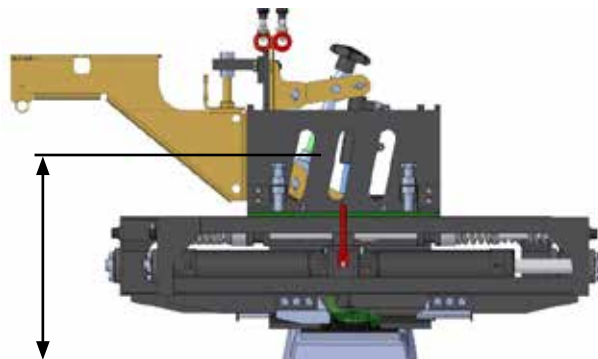
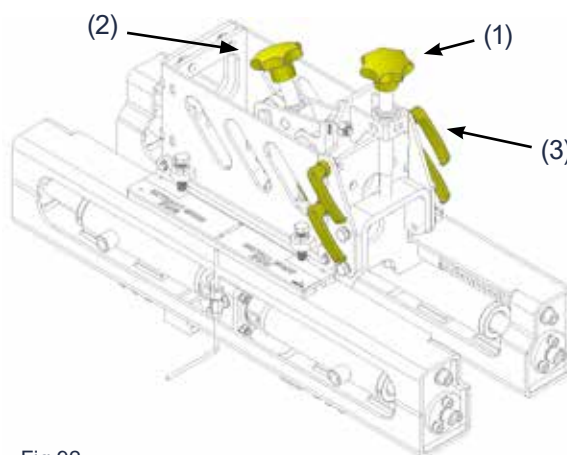
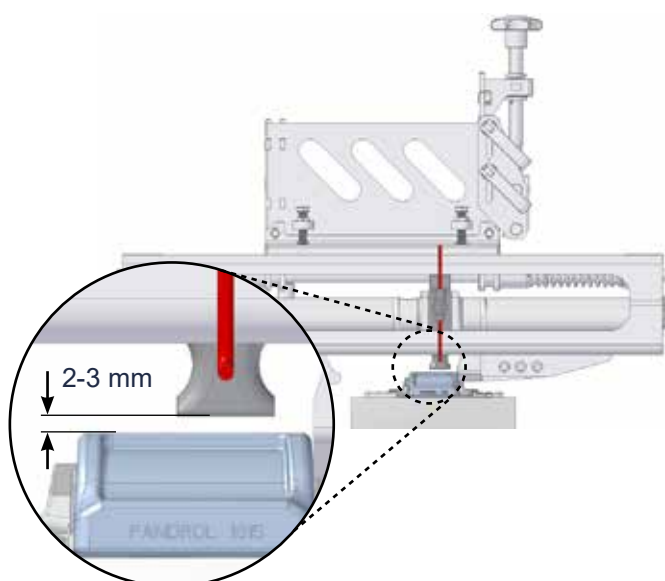

Fig 91. Parallel with the rail
Fig 92.
Fig 93.
1. Loosen the four excentric lock handles. (3), Fig 92.
2. Turn the knob (1), Fig 92 to adjust the height until the workhead is in parallel with the rail, Fig 91.
4. Fine adjust the height by turning the knob (2) Fig 92. When correctly adjusted, the double hook shall measure 2-3 mm above the shoulder Fig 93.